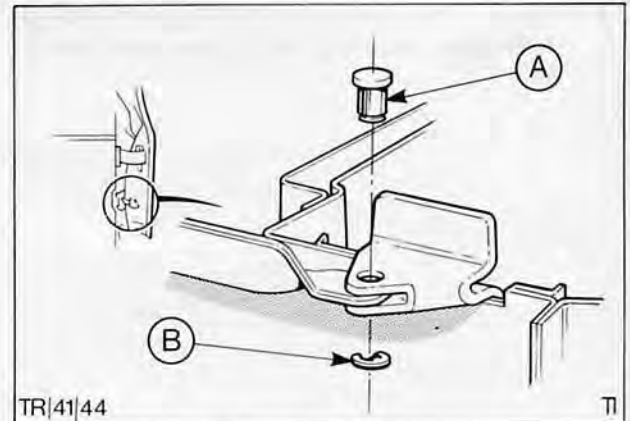

Fig. 27. Check arm clevis pin and retainer
2. Remove two screw and washer assemblies securing check arm to door, Fig. 27.
6. Using a suitable grease, grease tongue of check arm. Align hole in tongue with bracket on 'A' pillar, insert clevis pin and secure with retainer, Fig. 27.